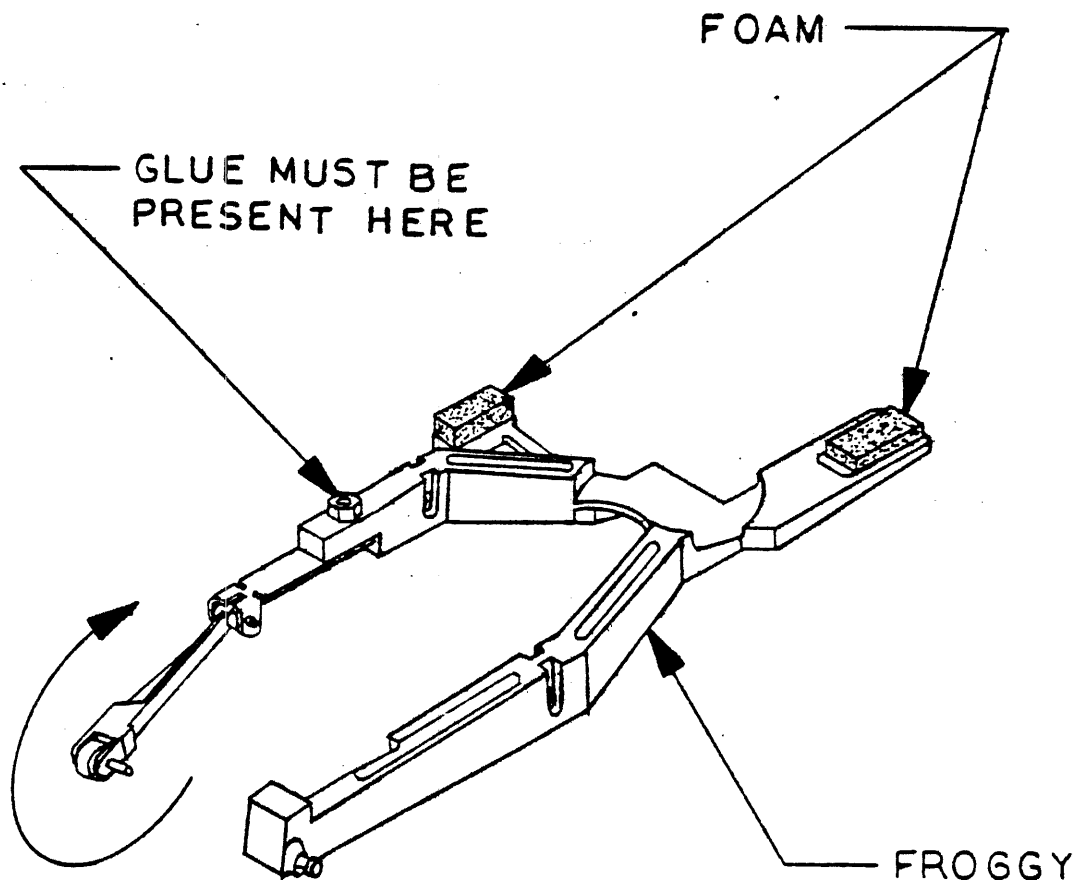

FIGURE 2. THE FROGGY FOAM & FROG LEG (BOTTOM VIEW)
7.1.1 Make sure the foam on the bottom of the froggy is straight, and that there is glue on the washer and screw holding the frog leg bracket. (See Fig. 2.) Flip the frog leg up to the top of the froggy to make sure the leg is straight and moves freely. If not, reject the froggy. Flip the frog leg back down.